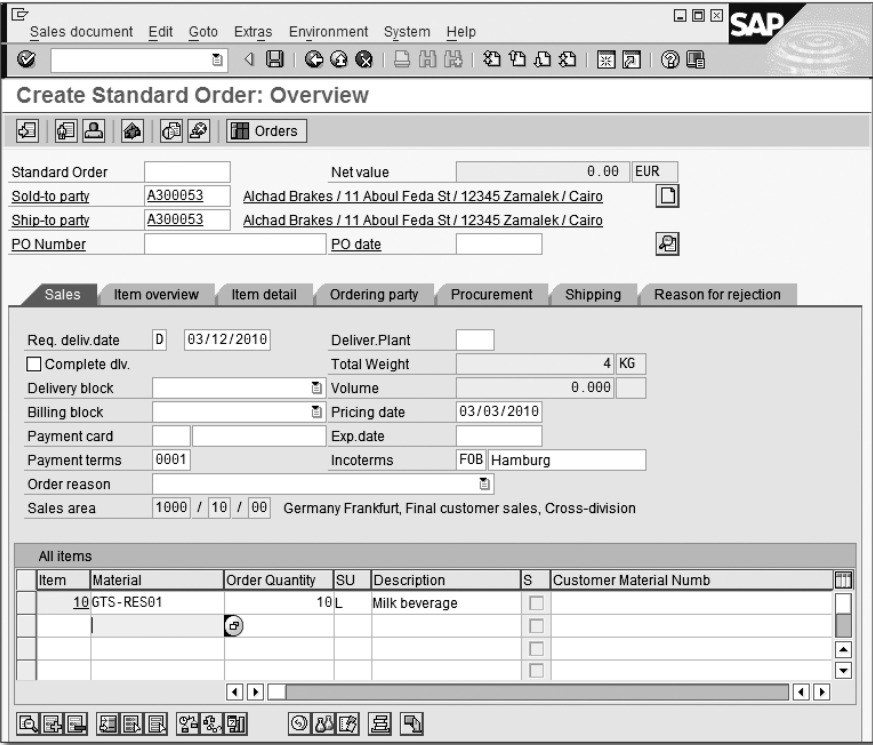

Figure 3.18 Create Standard Order – Material Determination Completion
- 4. Press `Enter` to continue. It's important to note that the material determination will substitute the description text you've entered with the valid SAP material number, as you can see in Figure 3.18.